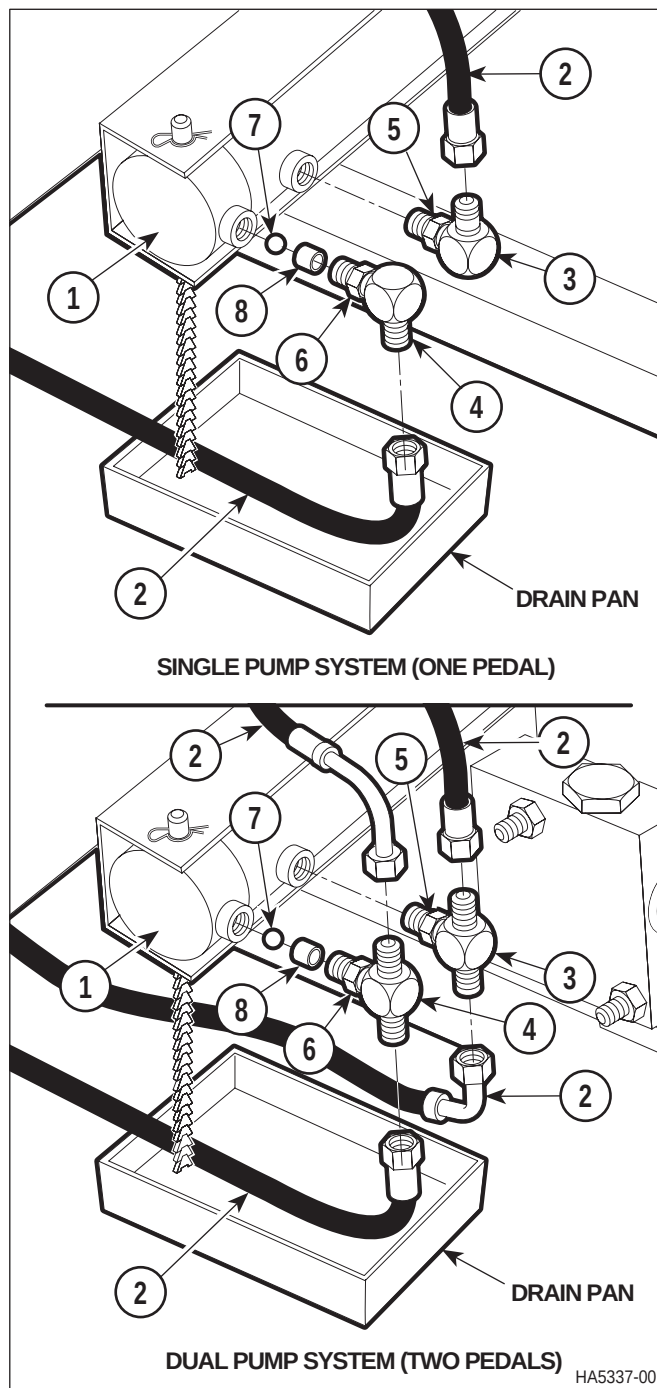

Figure 4-14. Elevation Cylinder Hose And Fittings Removal / Installation
- (1) Remove lower cover (Refer to para 4.2).
- (2) Lower bellows for access (Refer to para 4.3).
- (3) Depress the caster control pedal to the "brake" position.
- (4) Lay the stretcher onto its side.
- (5) Place a drain pan under elevation cylinder (1, Figure 4-14).
Hoses on stretchers with a "fifth wheel" will be routed slightly different than one without. Note the differences before disconnecting hoses or removing fittings. Figure 4-14 is shown without "fifth wheel".
- (4) Install restrictor seat (8, Figure 4-14) and nylon ball (7) in fitting (4).